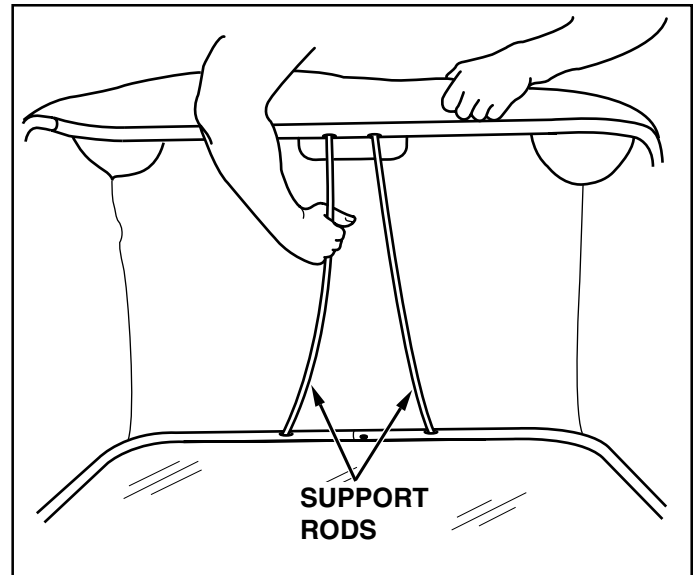

FIGURE 14
- Assemble the two hopper support rods as shown in figure 14. Place the ends of the rod into the upper and lower hopper tubes, bending the rod just enough to fit into the holes in tubes.